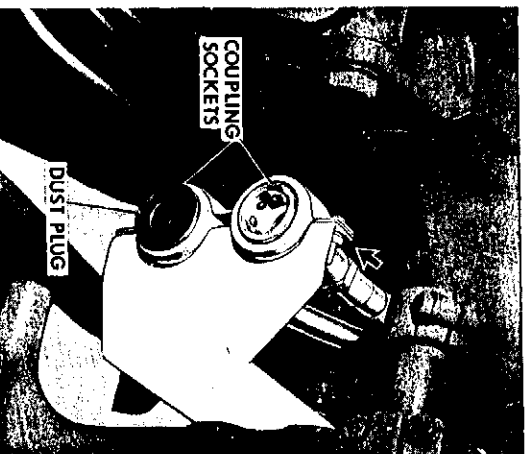

Figure 44
1. Remove the dust plugs from the coupling sockets by grasping each hose and socket with one hand and pulling rearward. The dust plugs may then be removed, Figure 44.